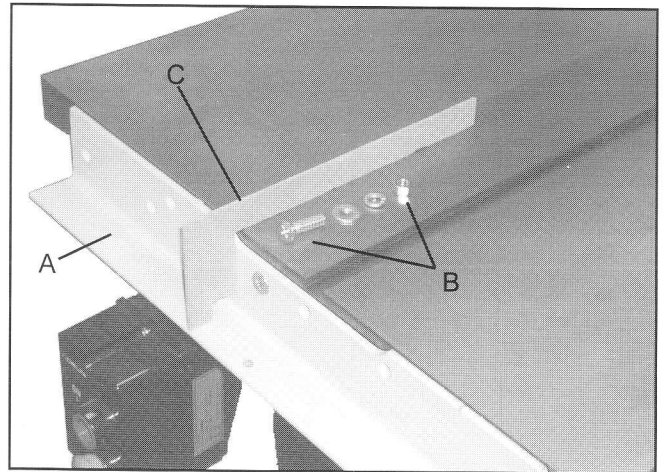

Fig. 5
1. Assemble front rail (A) Fig. 5 to the front edge of the saw table using the two 5/16-18 x 1-1/2" long flat head Phillips screw, flat washer, internal tooth lock washer and 5/16" hex nut (B) supplied. Screws are inserted through the two larger countersunk holes in the front rail and into the two holes in the front of the saw table and fastened with the flat washer, internal tooth lock washer and hex nut. **IMPORTANT:** Do not tighten front rail mounting hardware at this time.
2. Using template (C) Figs. 5 & 7, Check and adjust the front rail on both sides of the saw blade as shown, to make sure the rail is parallel with the table surface. The horizontal portion of the rail should be down from the top of the table surface 2-27/32". Tighten the front rail mounting hardware when you are certain the rail is set at the proper depth.